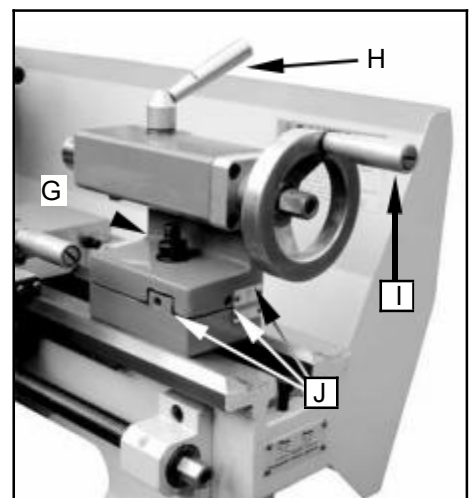

Fig. 12
10. Tailstock Clamping screw (G, Fig. 12)
11. Tailstock Quill Clamping Lever (H, Fig. 12)
12. Tailstock Quill Traverse Handwheel (I, Fig. 12)